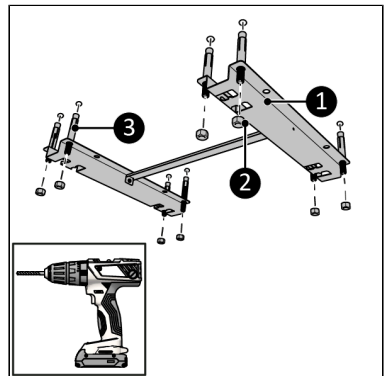

Figure 42.
4. Place the bracket against the ceiling and mark the eight holes (Figure 42).
6. Place the anchor bolts (Figure 42, pos. 3).
7. Tighten the bracket (Figure 42, pos. 1) to the ceiling with the eight nuts (Figure 42, pos. 2).